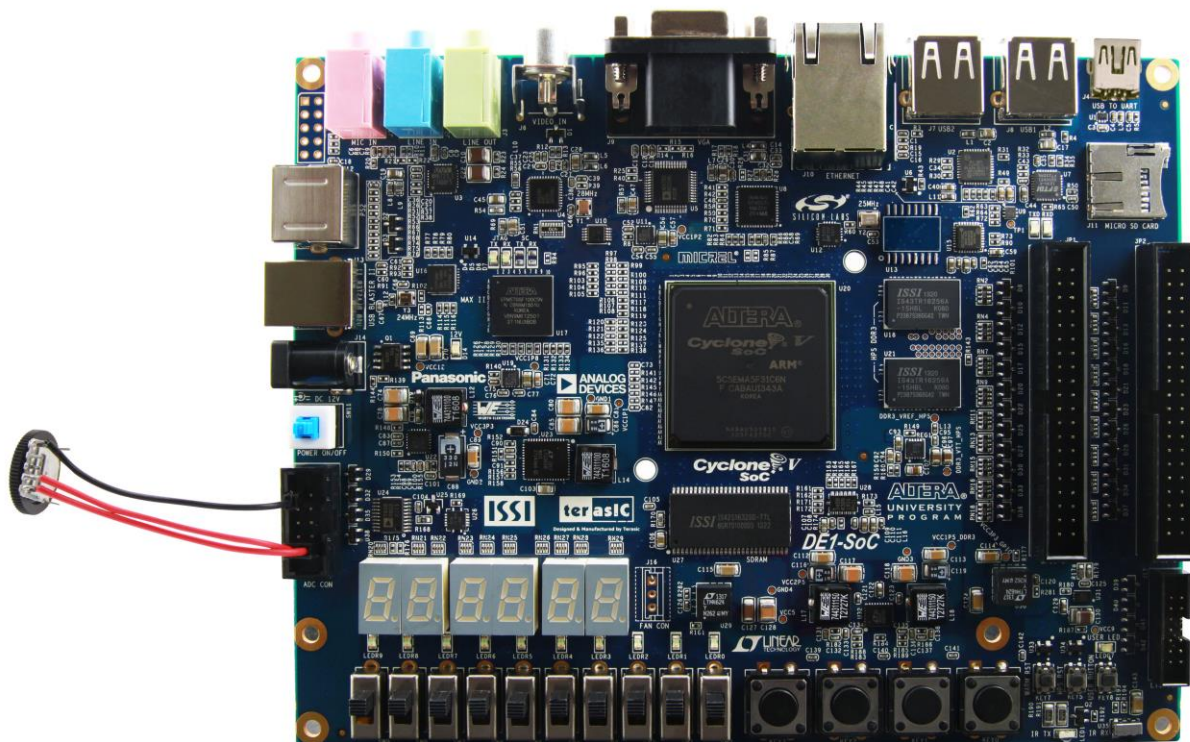

Figure 5-21 ADC Reading hardware setup
- Connect the trimmer to corresponding ADC channel on the 2x5 header as shown in **Figure 5-21** to read from, as well as the +5V and GND signals. (Note: the setup shown above is connected ADC channel 0).